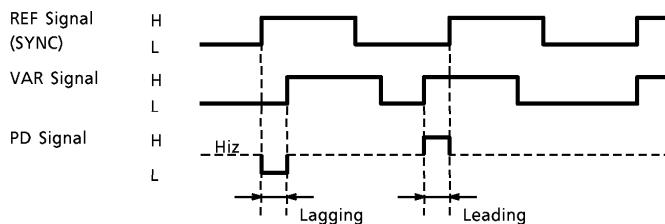

Fig.4 Example of Phase-Difference Output Timing
A phase-difference (PD) signal between the REF and VAR signals are output from the PD terminal the PD signal as shown in Figure 4 below.
The 16bit/24bit serial data input/output channel clocks (LR, ELRIO~1 and ELROO~2) and bit clocks (FS64, FS32, EBCI0~1 and EBCO) can be either internally generated or externally input. The mode setting is effected by the microcontroller interface (control register). Figure 4 shows the data input/output clock pulse selector.